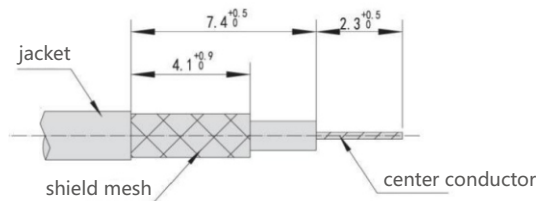

Figure 2.1
①Strip the cable as shown in Figure 2.1. The end must be cut clean and perpendicular to the axial plane of the cable. The cable must not be deformed during cutting.